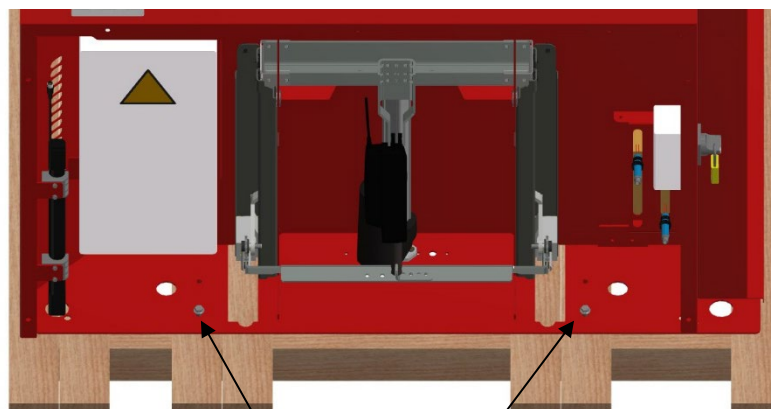

Figure 2
- A. Remove the 4 bolts that secure the Palomat to the transport pallet. Figure 2. Use a 10 mm spanner to loosen the bolts and remove them.